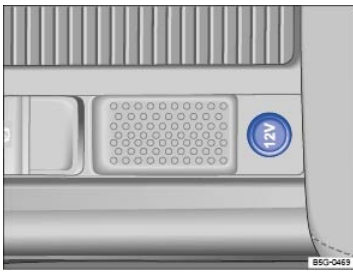

Fig. 144 In the lower center console: 12 Volt socket.
- In the lower center console ⇒ Fig. 144.